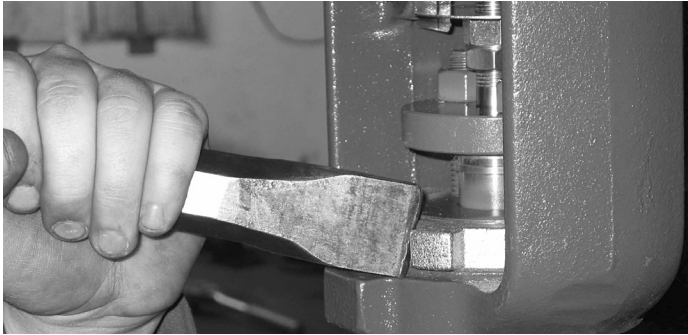

Figure 4 Yoke nut being loosened with a chisel
- 4 Use a blunted heavy chisel to loosen yoke nut (See Figure 4), unscrew yoke nut off of bonnet. Lift actuator off of valve and store in a safe place.